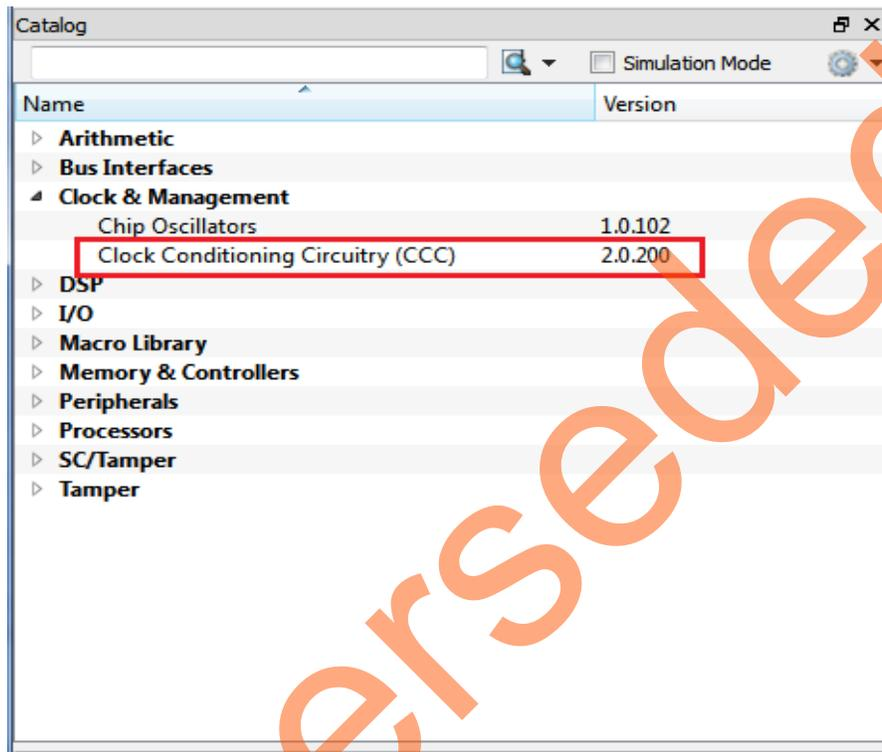

Figure 26 • Catalog
1. Expand the **Clock & Management** category in the Libero SoC **Catalog**. Figure 26 shows Libero Catalog.